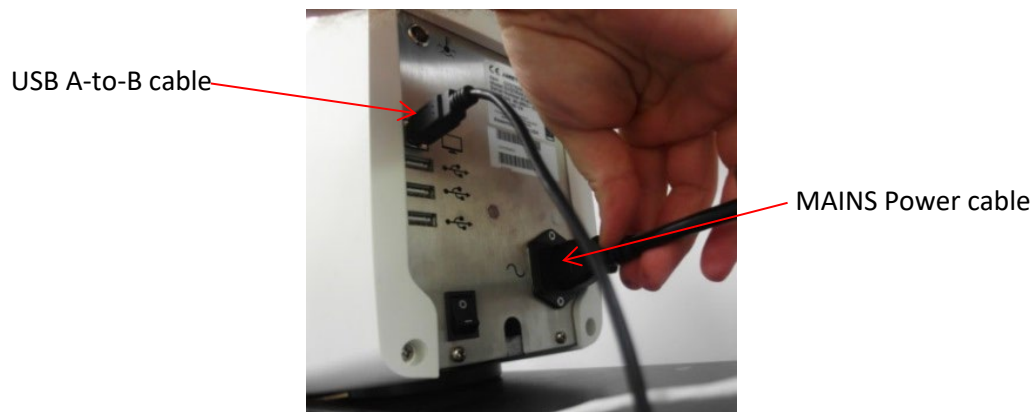

Figure 6: Attach MAINS Power and USB Cable
5. Attach MAINS power cable and the USB A-to-B cable to the Head Unit, as shown in Figure 6.